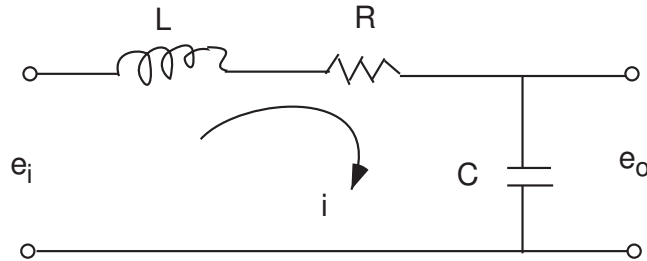

Figure 8: RLC circuit.
2. State variable models can be applied in many situations. When modelling a mechanical system the state variables (or states) are generally chosen to be the position and velocity of each mass in the system (if the system exhibits rotary motion, the states are chosen to be the angular position and angular velocity of each inertia). If the system to be modelled is an electric circuit, such as the RLC circuit depicted in Figure 8, then the states may be chosen as the current through each inductor and the voltage across each capacitor
- (a) Consider the RLC circuit shown in Figure 8. Kirchoff's laws state that the voltages e_o and e_i and the current i are related by the equations: